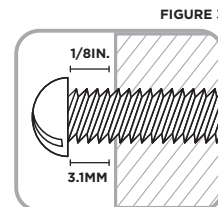

FIGURE 3
- Drive the screws provided in the mounting hardware into the mounting surface until approximately 1/8in. (3.1mm) of space remains under the head of the screw (see Figure 3).